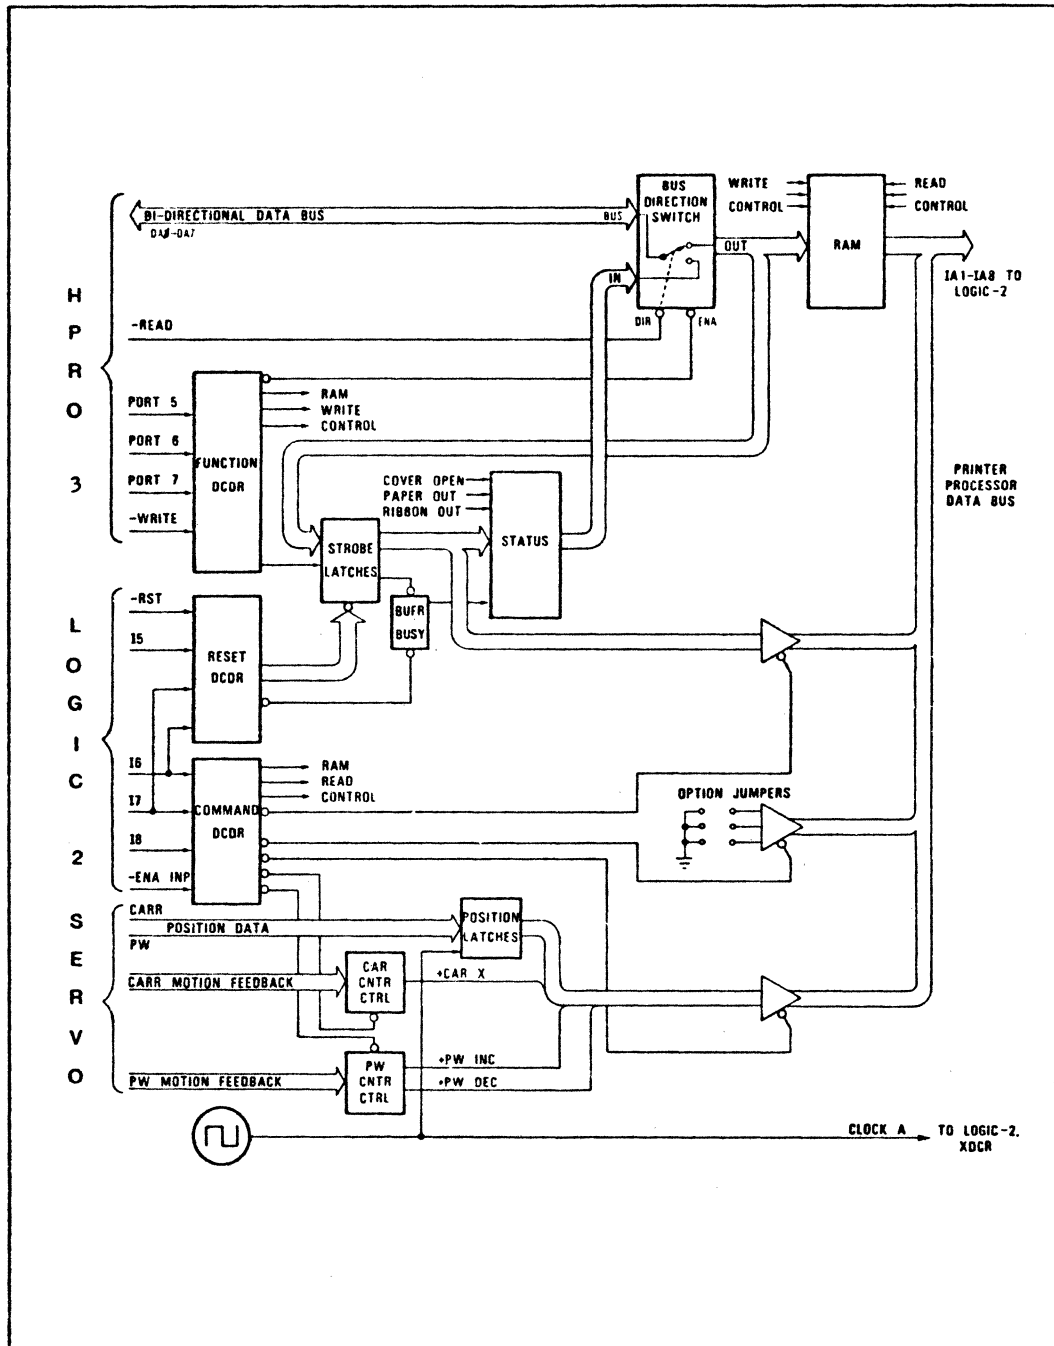

Figure 2-8. Block Diagram, 8080 INTERFACE Board
The transfer of a printer command from the terminal microprocessor to the printer microprocessor involves the following steps (refer to Figure 2-8):
2.3.1.1.1 WRITE to Ports 6 and 7. When a write command is executed to either port 6 or 7, the data appears on the bi-directional data bus simultaneously with the development of the -WRITE signal and -PORT 6 or -PORT 7 . The FUNCTION DCDR block in Figure 2-8 contains random logic which both enables (turns on) the BUS DIRECTION SWITCH, and addresses the RAM according to the I/O port selected. Since -READ is high at this time, the BUS DIRECTION switch allows data to flow from its "bus" connection to its output, from where it is written into the RAM.